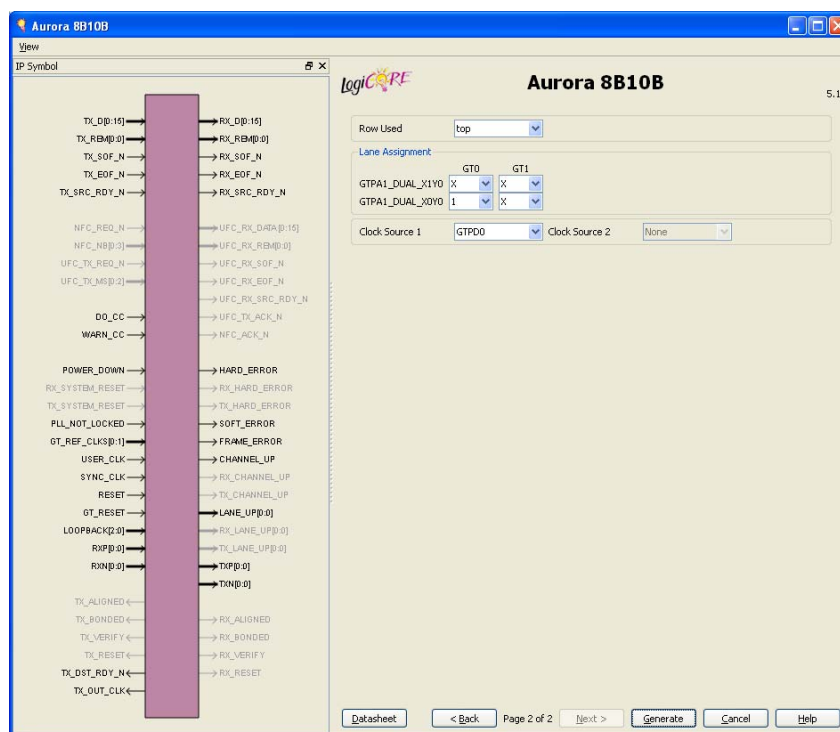

Figure 2-5: Second GUI Page for Spartan-6 FPGA GTP Transceivers
- Figure 2-5, page 24 for Spartan®-6 FPGA GTP transceivers